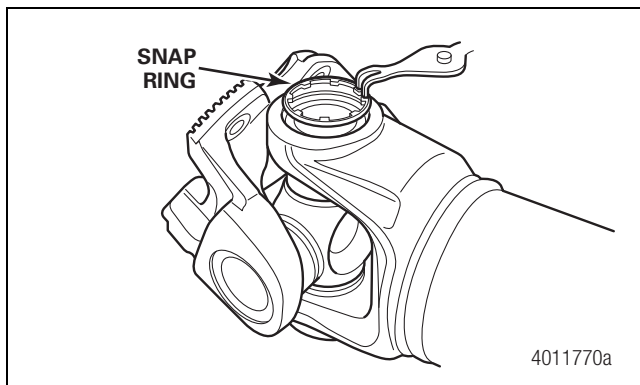

Figure 4.75
8. Install the snap ring. If necessary, use a drift and hammer help seat the snap ring in the groove. If the snap ring will not seat correctly, make sure the snap ring groove is clean and free of debris. Figure 4.75.